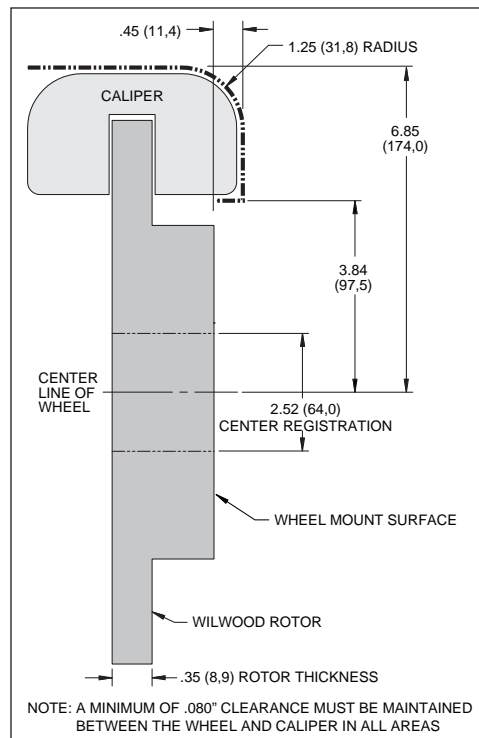

Figure 2. Wheel Clearance Diagram
- Review the wheel clearance diagram (Figure 2) to verify that there is adequate clearance with the wheels you will be using with the installation.
- Before any tear-down or disassembly begins, modifications are required to the stock spindle. This includes removing some material from the stock spindle caliper mounting area that will interfere with the assembly of the Wilwood disc brake kit. It is recommended that these modifications be performed by a qualified machine shop. Please refer to the modification procedure and Figure 2 below.
- Verify your wheel clearance using Figure 2.